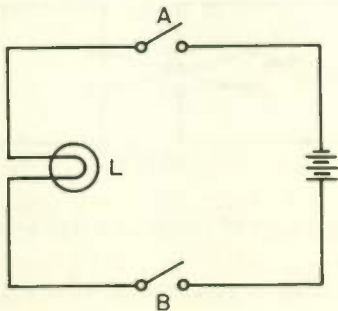

Fig. 6
3. The Boolean equation (language) describing the circuit of Fig. 6 is $L =$ _____.